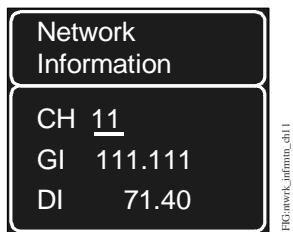

Figure 7: Selecting CH, GI, or DI
3. Press the Up/Down buttons to select **CH** to change the radio channel number, **GI** to change the device network group ID, and **DI** to change the unique thermostat device ID (Figure 7).